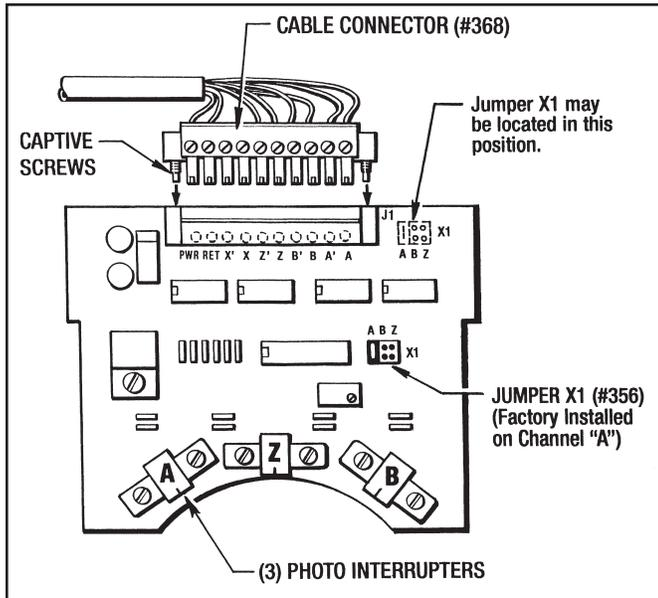

Figure 9.20 - Circuit Board Connector
- Place the Cable Grommet (#260) and Cable (#259) into the upper slot and plug in the Cable Connector (#368) to the Circuit Board Connector and tighten the (2) Captive Screws in the Cable Connector. (See Figure 9.20)